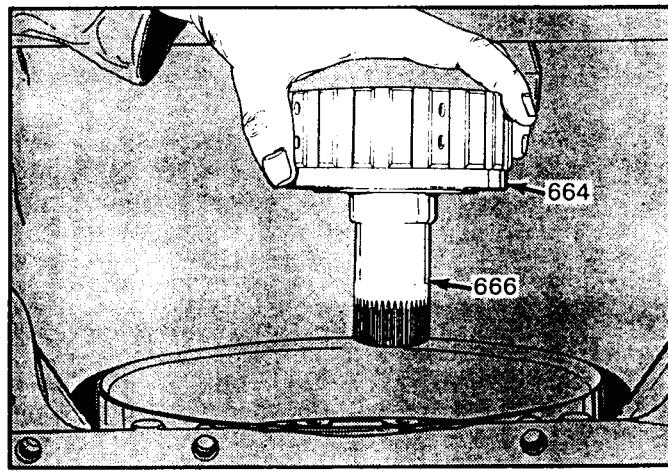

Figure 97
- 4. Install entire assembly into the transmission by rotating into position as shown in Figure 97.